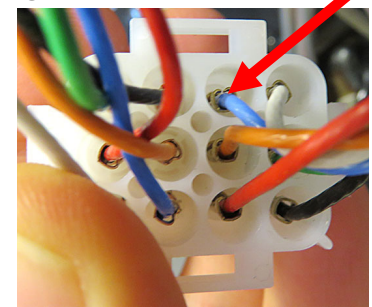

Figure 24
25. Insert the blue wire into Pin 6 (see Figure 24).